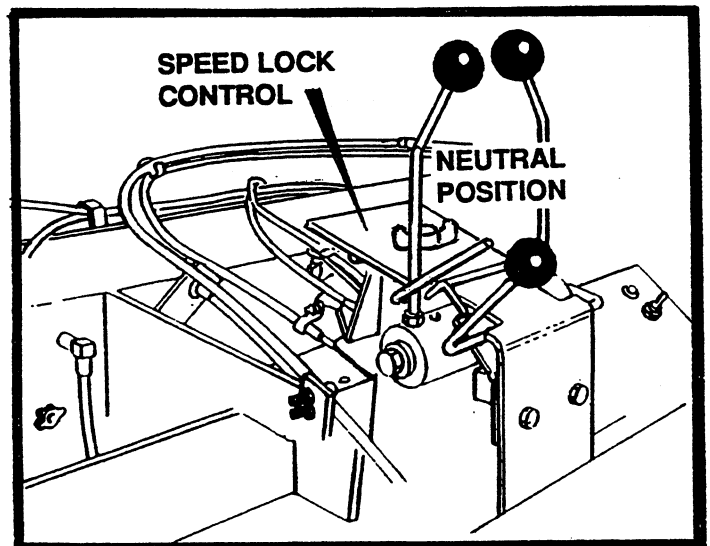

FIGURE 6
3. Depending on the direction of travel, turning the paver can be accomplished by pushing or pulling the steering lever on the inside of the turn toward the neutral position. Refer to figure 6.